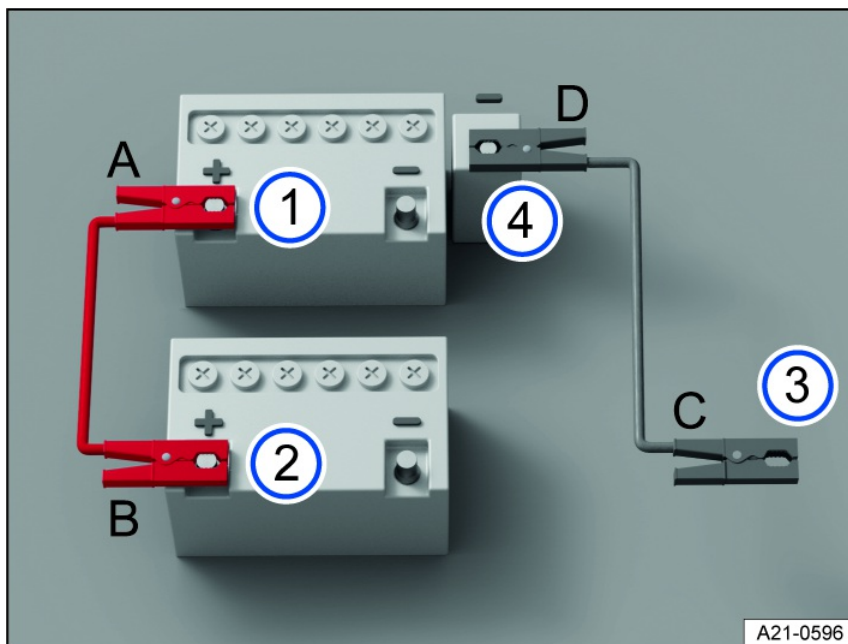

Fig. 183 Diagram for connecting the jumper cables.
Only connect the jumper cables in the sequence A – B – C – D *fig. 183*.
3. Connect one end of the red jumper cable to the positive battery terminal (+) of the 12 V vehicle battery with the discharged 12 V vehicle battery *fig. 183* ① = .
4. Connect the other end of the red jumper cable to the positive battery terminal (+) on the vehicle providing current *fig. 183* ②.
5. Connect one end of the black jumper cable preferably to the negative terminal (–) jump-start point on the vehicle with the 12 V vehicle battery providing current *fig. 183* ③.
Or: If there is no negative terminal (–) jump-start point, connect the end of the black jumper cable to a large metal part that is bolted securely to the engine block, or the engine block itself, on the vehicle with the 12 V vehicle battery providing current *fig. 183* ③.
6. Connect the other end of the black jumper cable to the negative terminal (–) jump-start point on the vehicle with the discharged 12 V vehicle battery *fig. 183* ⇒ .
3. Once the vehicle has been jump-started, always disconnect the jumper cables in the order D – C – B – A *fig. 183*.